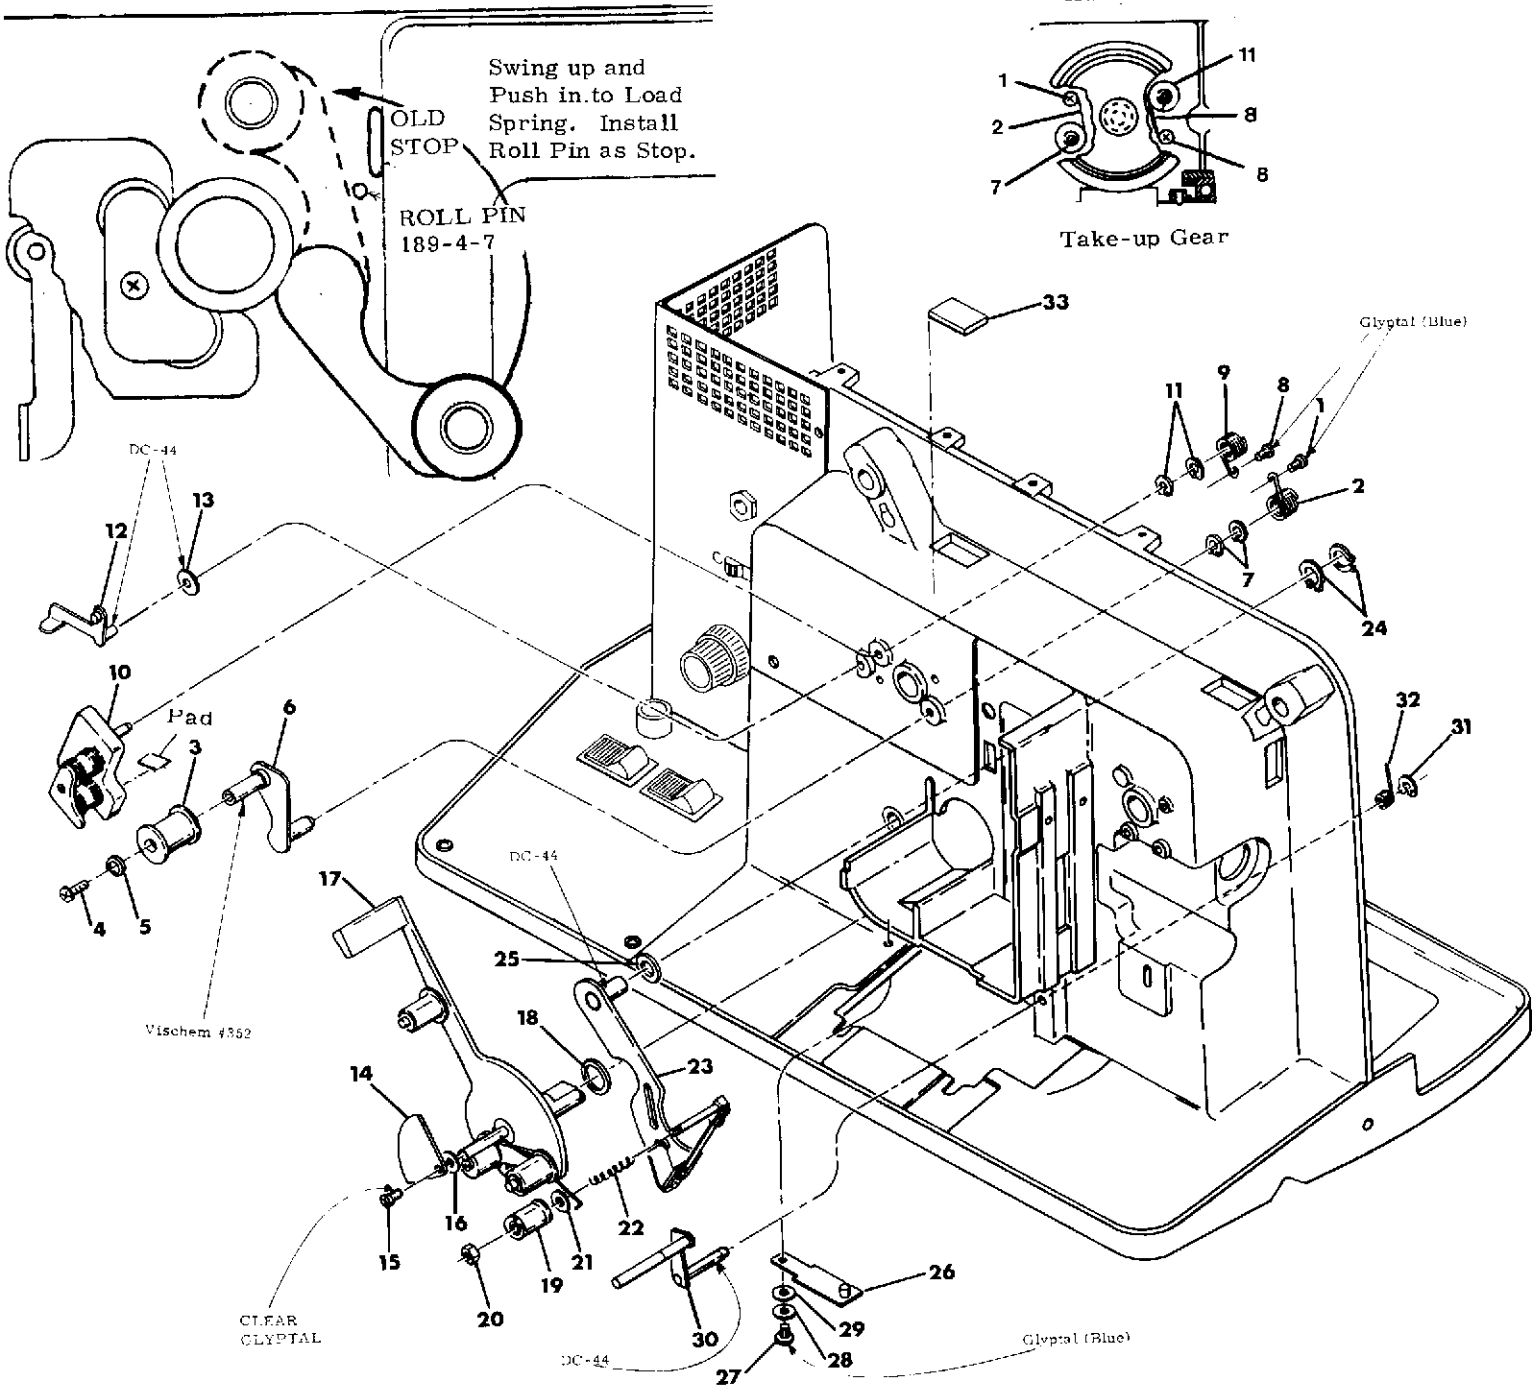

Figure 3-3. DISASSEMBLY AND REASSEMBLY
2. Open Takeup Sprocket Shoe Arm (10), Figure 3-3.
3. Loosen Screw (26) and hold Takeup Sprocket (25) while removing Takeup Gear (29).
Removal of Reel Tension Arm (Figure 3-3)
Reassembly of Reel Tension Arm to Projector (Figure 3-3)
- a. Use a prick punch to locate a hole just below and slightly behind the reel tension arm Stop molded as part of the main casting (note position in Figure 3-3)
2. Apply Vischem 352 lubricant to roller shaft of Reel Tension Arm and assemble Roller (3) to arm.
4. Assemble Reel Tension Arm to projector - allow it to hang down as shown in (Figure 3-3)
5. Assemble two new Grip Rings (7) to shaft, pushing them just past **bottom** of slot in end of shaft.
6. Assemble Spring (2) to main casting with Screw (1). Do not tighten screw completely.
7. Push tail of Spring (2) into slot in shaft by moving Reel Tension Arm to align slot with tail.
9. Push Reel Tension Arm snugly against main casting and push Grip Rings (7) up against inside of main casting. End play of Reel Tension Arm should be about .005". (If provision was made in Step 1 for a Roll Pin Stop or if an existing Roll Pin had to be removed during this procedure, a new roll pin should be installed at this point. Hold the Reel Tension Arm back and insert a 189-4-7 Roll Pin, allowing it to protrude from front surface of casting about 5/32".)
10. Tighten Screw (1) and apply a coating of Glyptal 7526 to its head.
Reassembly of Takeup Sprocket Shoe Arm to Projector (Figure 3-3)